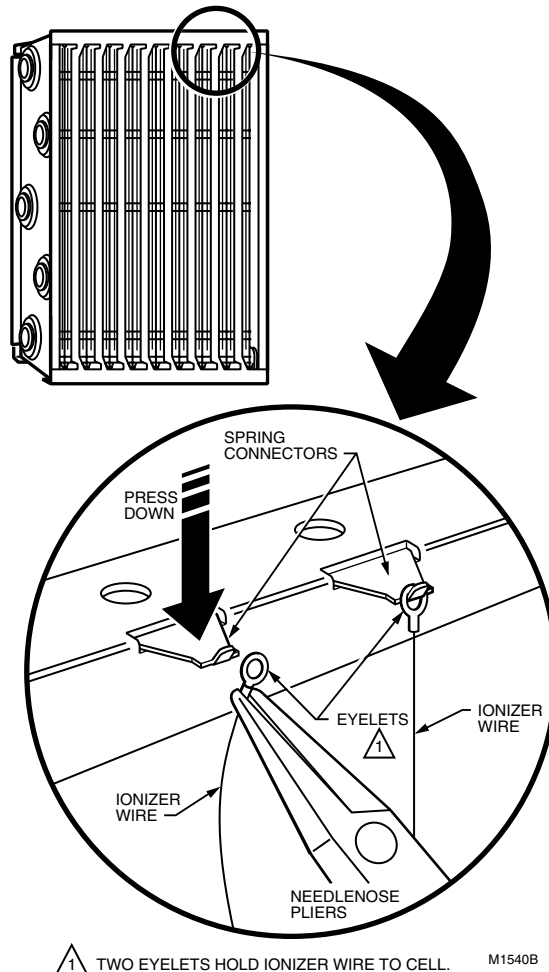

Fig. 22. Replacing an ionizer wire.
3. Check the cell for short circuits using an ohmmeter. Check the resistance between the frame of the cell and both the ionizer and the collector contacts. In each case, the resistance should be infinite. See Fig. 22.